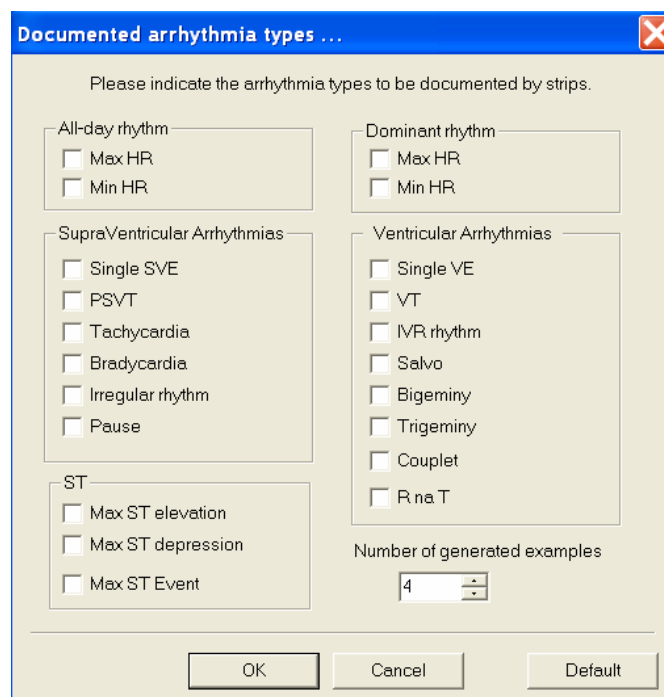

Figure 46. Window of default arrhythmia definitions
2. A dialogue box will be displayed (see Figure 46).